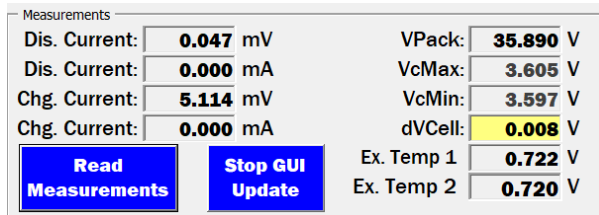

Figure 25. Chg. Current Measurement
The FETs are now on a current signal and can be induced. Connect the positive terminal of the floating supply to J8 that is tied to the BAT- pin and (2) connect the negative terminal to J5 that is tied to the CHRG- pin. Turn on the supply and raise the voltage to ~5mV. Perform a system scan and click **Read Measurements**. The **Fault and Indicators** box should now have a CHRGI indicator and the **Chg. Current** measurement should read 5mV as seen in Figure 25. If the measurement value is significantly lower, the charge and discharge sense resistors might need to be replaced with a larger value so that examining the current related functionality is easier without requiring large amounts of current.